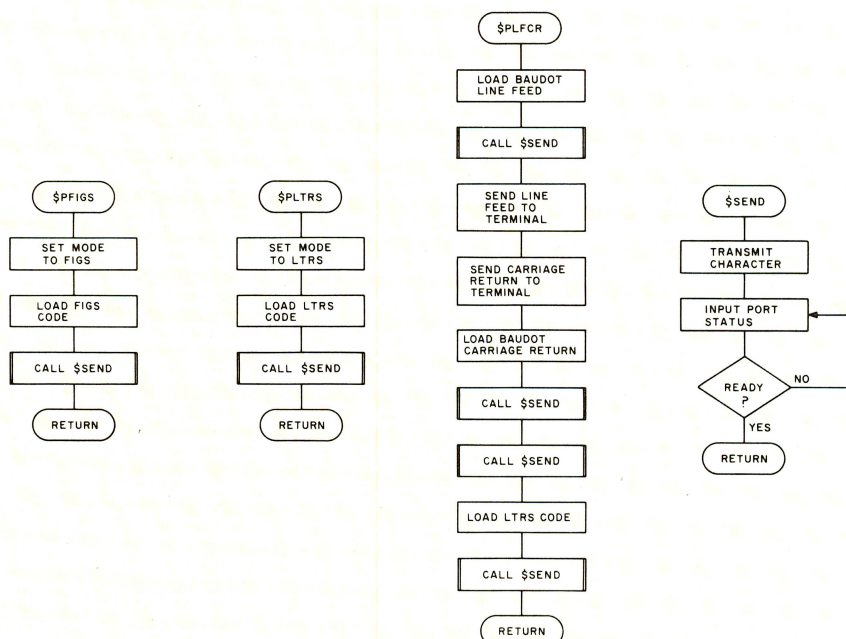

Fig. 7. Utility transmit subroutine.
the LTRS/FIGS mode must be shifted to FIGS before a return to the main program is executed. When the program is in the FIGS mode, the LTRS code (37g) must precede the next LTR to be transmitted. After any printable character is transmitted, the column counter (E) is incremented before a return to the main program is executed. The utility subroutines \$PFIGS and \$PLTRS shown in Fig. 7 handle the LTRS/FIGS conversions and \$SEND subroutine does the actual character transmitting. If upon return to the main program the column count is equal to 72 (width of a standard TTY terminal), a subroutine